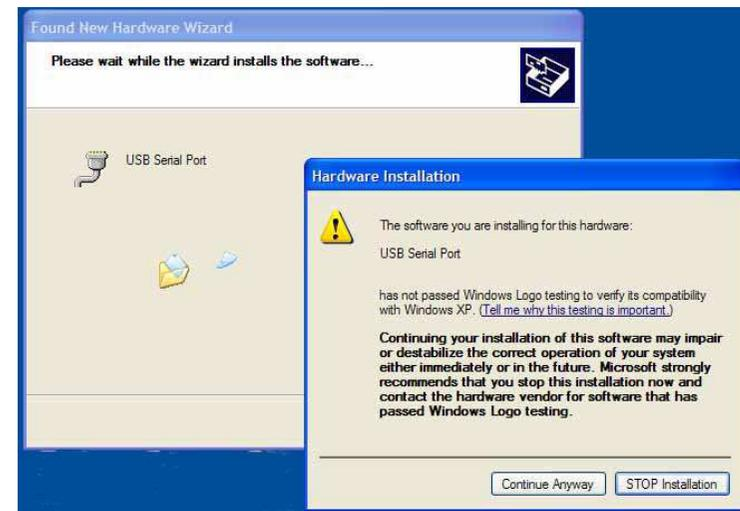

Figure 8
- 4) If a hardware warning message appears (figure 8), click : *Continue Anyway* (The Warning message occurs because this is an open source driver and not registered with Microsoft)